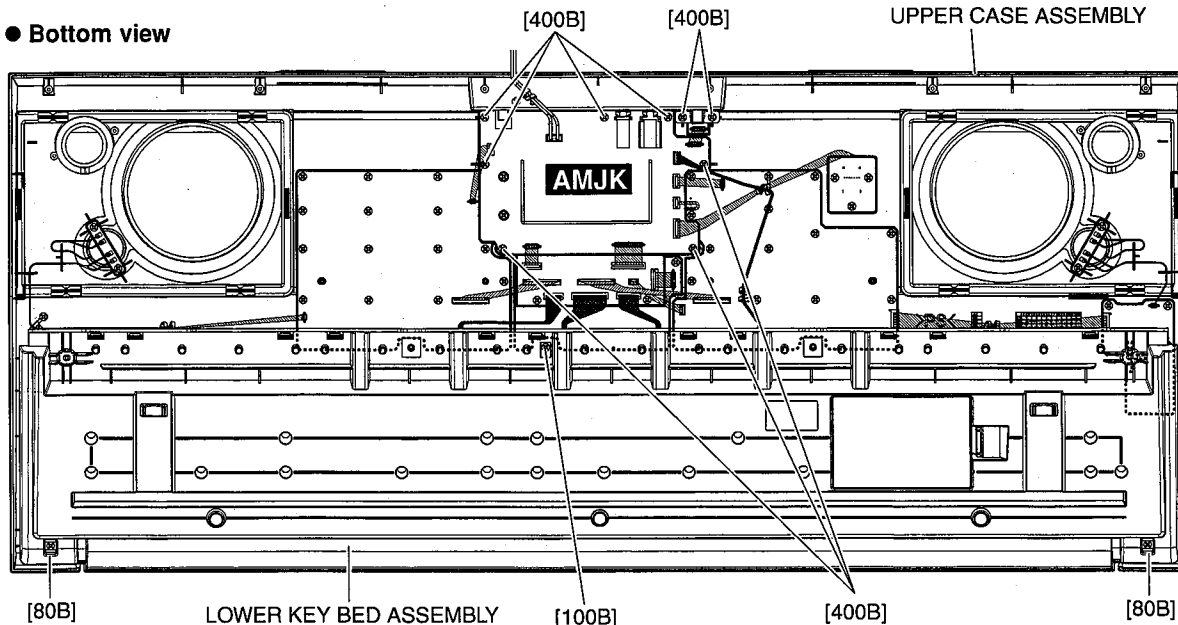

Fig. 2
- 2-2. Remove the two (2) screws marked [80B] and screw marked [100B]. The lower key bed assembly can then be removed. (Fig. 2)
- 3-2. Remove the screw marked [400A] on the rear. (Fig. 2)
- 3-3. Remove the nine (9) screws marked [400B]. The AMJK circuit board can then be removed. (Fig. 2)